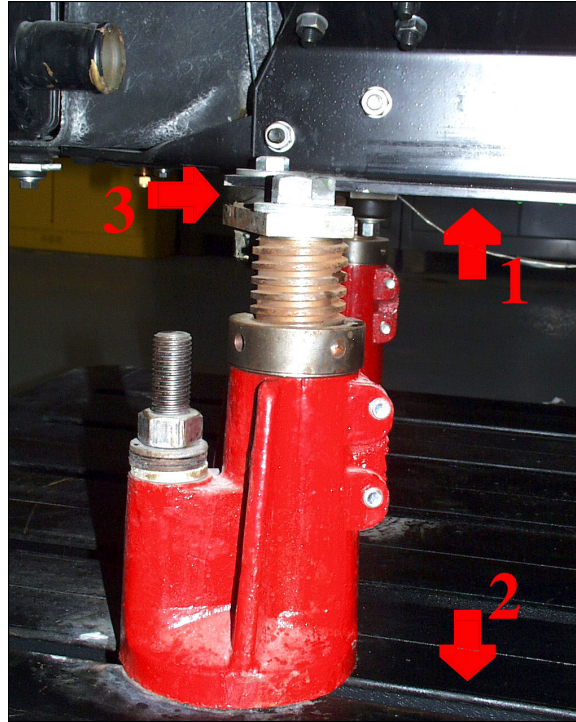

Figure 8
- 108 Use the engine lift to position the engine and cradle assembly (Arrow 1 in Figure 8) on the support bars and bolt the cradle to the support bars (Arrow 2 in Figure 8). The mounting feet are shown attached to the steel palette (Arrow 3 in Figure 8).